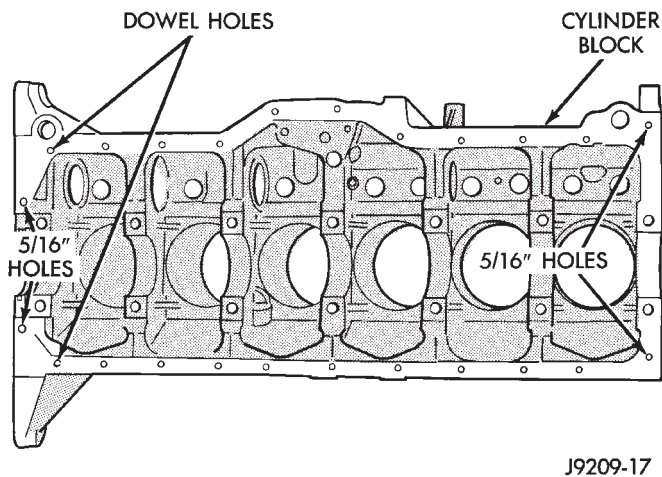

Fig. 50 Position of Dowels in Cylinder Block
(3) Install two dowels in the timing case cover. Install the other two dowels in the cylinder block (Fig. 50).
(4) Apply Mopar® Silicone Rubber Adhesive Sealant on cylinder block to rear main bearing cap cor-